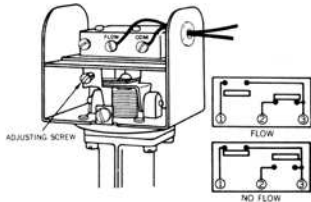

Figure 3
- A. Flow switch may be set too high and be too sensitive to the lower stream of oil near the completion of evacuation. Adjust flow switch (Figure 3), page 20.